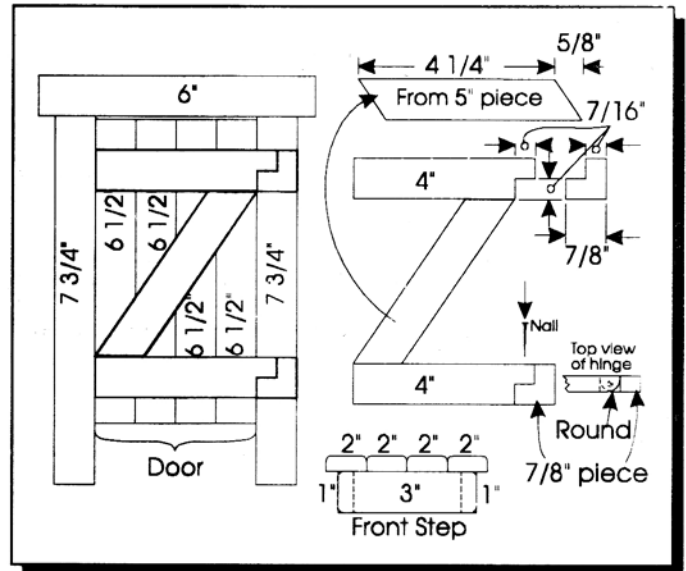

Figure 14- Front Door, Braces, and Trim
- c. Glue one 3", four 2", and two 1" pieces to assemble the Front Step as shown in Figure 14. See also picture on box label.
a. Install Door and Door Trim that was pre-assembled in the "Door and Front Step" pre-assembly section. See also front view on label. For the Door Handle, go outside and find a small twig with a bend in it and peel the bark. With the bend up, rub the twig on a piece of sandpaper to flatten a gluing surfaces. This handle will give the door an authentic appearance. Glue in place. Refer back to Figure 14.